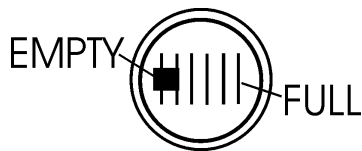

Figure 9. Fuel Gauge
3. Read the fuel gauge located on top of the fuel tank (Figure 9) to determine if the fuel level is low. If fuel is low, replenish with clean unleaded fuel.